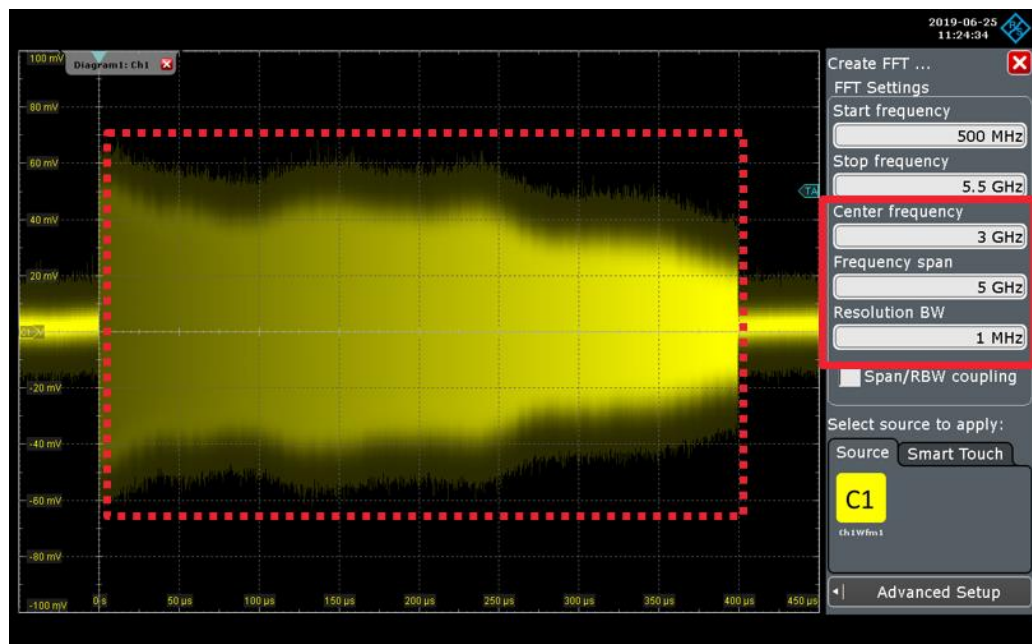

Fig 2-16: Settings for the frequency domain measurement via FFT on a certain radar pulse
- For the spectrum analysis enter the settings in the side bar window as shown in Fig 2-16. The Center frequency corresponds to the IF frequency of the measurement setup, here 3 GHz. The setting for *Frequency span* should be higher than the expected chirp bandwidth.